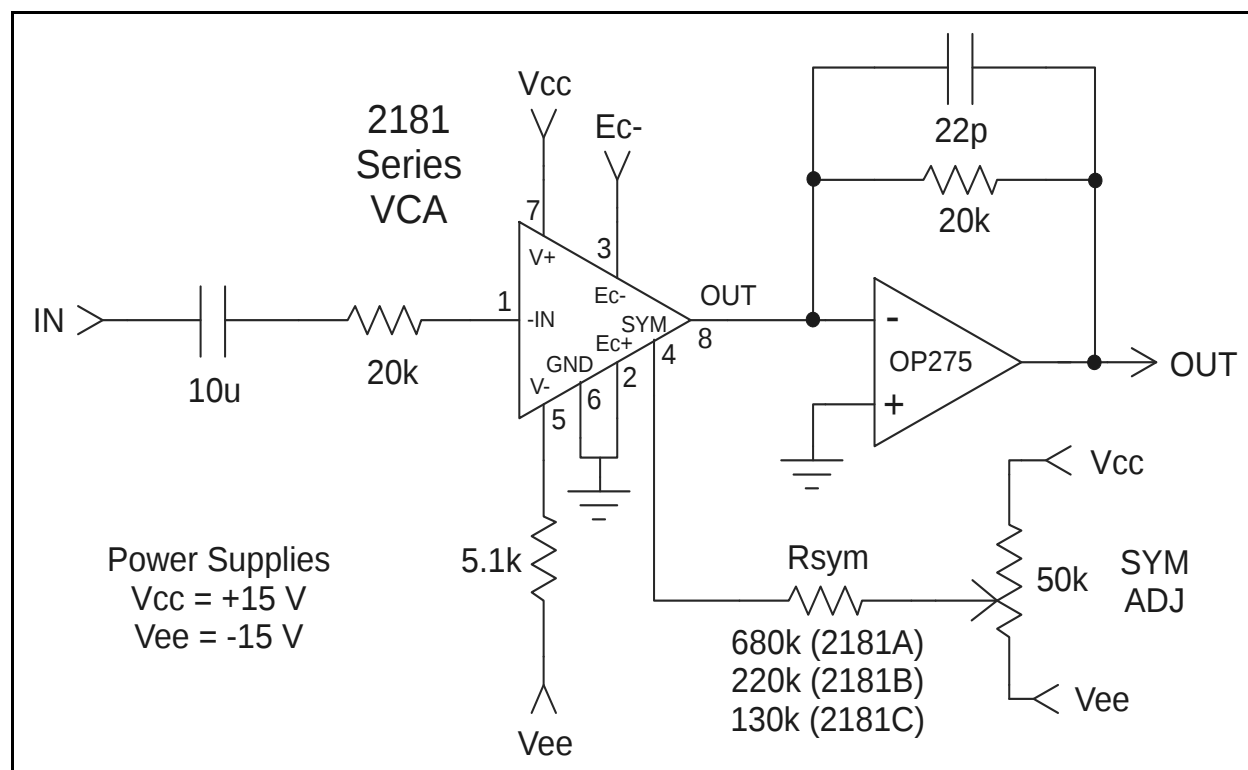
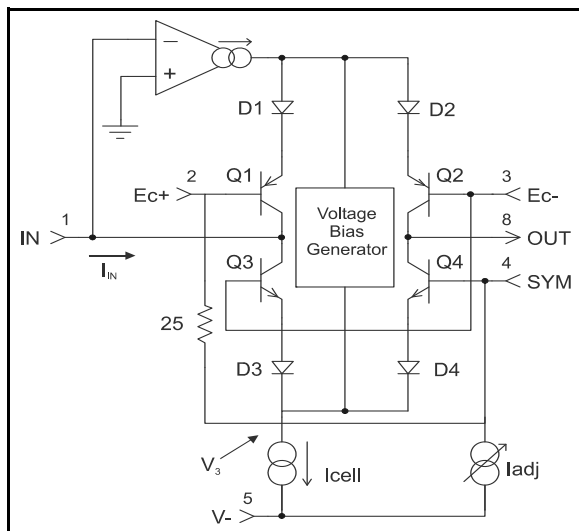
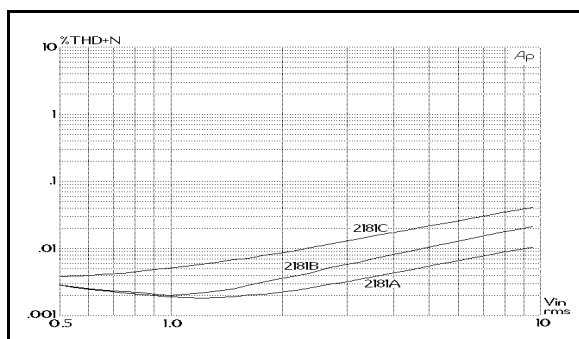
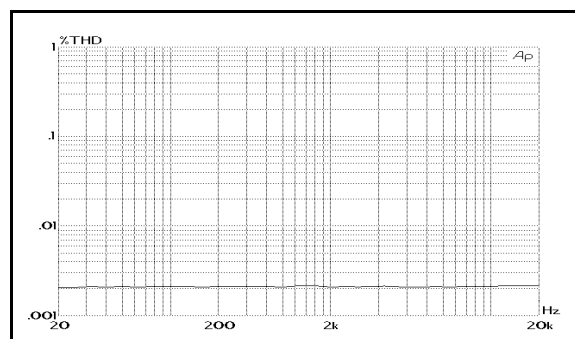

Figure 2. Typical Application Circuit
Figure 5. Simplified Internal Circuit Diagram
Figure 10. 1 kHz THD+Noise vs. Input Level, 0dB Gain
Figure 13. 2181A THD+N vs Frequency, 0dB gain 1kHz 1V
2. Unless otherwise noted,  $T_A = 25^\circ\text{C}$ ,  $V_{CC} = +15\text{V}$ ,  $V_{EE} = -15\text{V}$ . Test circuit as shown in Figure 2. SYM ADJ is adjusted for minimum THD at 1 V, 1 kHz,  $E_{C-} = -E_{C+} = 0\text{ V}$ .
Figure 5 presents a considerably simplified internal circuit diagram of the IC. The ac input signal current flows in pin 1, the input pin. An internal operational transconductance amplifier (OTA) works to maintain pin 1 at a virtual ground potential by driving the emitters of Q1 and (through the Voltage Bias Generator) Q3. Q3/D3 and Q1/D1 act to log the input current, producing a voltage, V3, which represents the bipolar logarithm of the input current. (The voltage at the junction of D1 and D2 is the same as V3, but shifted by four forward  $V_{be}$  drops.)
In normal operation, the output current is converted to a voltage via an opamp-based I-V converter, as shown in Figure 2, where the conversion ratio is determined by the feedback resistor connected between the output and inverting input. The signal path through the VCA and the output opamp is non-inverting.
The 2181 current consumption is determined by the resistor between pin 5 (V-) and the negative supply voltage ( $V_{EE}$ ). Typically, with 15V supplies, the resistor is 5.1 kΩ, which provides approximately 2.4 mA. This current is split into two paths: 570 μA is used for biasing the IC, and the remainder becomes  $I_{CELL}$  as shown in Figure 5.  $I_{CELL}$  is further
The 2181-Series VCAs are intended to be adjusted for minimum distortion by applying a small variable offset voltage to pin 4, the SYM pin. Note that there is a 25 Ω resistor internal to the 2181 between pin 4 and pin 2. As shown in Figure 2, Page 3, the usual method of applying this offset is to use the internal 25 Ω resistor along with a larger value resistor to form a voltage divider connected to the wiper of a trim pot across the supply rails.
The 2181-Series VCA design, fabrication and testing ensure extremely good audio performance when used as recommended. The 2181 maintains low distortion over a wide range of gain, cut and signal levels. Figures 10 through 12 show typical distortion performance for representative samples of each grade of the part. At or near unity gain, the 2181 behaves much like a good opamp, with low distortion over the entire audio band. Figure 13 shows typical THD for a 2181A over frequency at 0 dB gain, with a 1 V input signal, while Figure 14 details the harmonic content of the distortion in a typical A-grade part.
The Input pin (pin 1) is a virtual ground with negative feedback provided internally (see Figure 5, Page 4). The input resistor (shown as 20 kΩ in Figure 2, Page 3) should be scaled to convert the available ac input voltage to a current within the linear range of the device. Generally, peak input currents should be kept under 1 mA for best distortion performance.
Refer to Figures 10 through 12 to see how distortion varies with signal level for the three parts in the 2181 Series for 0 dB, +15 dB and -15 dB gain. The circuit of Figure 2, Page 3 was used to generate these curves.
A designer may trade off noise for distortion by decreasing the 20 kΩ current-to-voltage converting resistors used at the input and output in Figure 2, Page 3. For every dB these resistor values are decreased, the voltage noise at the output of the OP275 is reduced by one dB. For example, with 10 kΩ resistors, the output noise floor drops to -104 dBV (typical) at 0 dB gain — a 6 dB reduction in noise because 10 kΩ is 1/2 of (6 dB lower than) 20 kΩ.
The Output pin (pin 8) is intended to be connected to a virtual ground node, so that current flowing in it may be converted to a voltage (see Figures 2 & 15). Choose the external opamp for good audio performance. The feedback resistor should be chosen based on the desired current-to-voltage conversion constant. Since the input resistor determines the voltage-to-current conversion at the input,
The SYM pin (pin 4) is actually a sort of additional positive-sense control port. It is provided to allow  $V_{be}$  mismatches in the core transistors to be adjusted after packaging and installation in the circuit board. It should only be used for this purpose. Connect pin 4 only to a high-impedance source as shown in Figures 2 and 15.